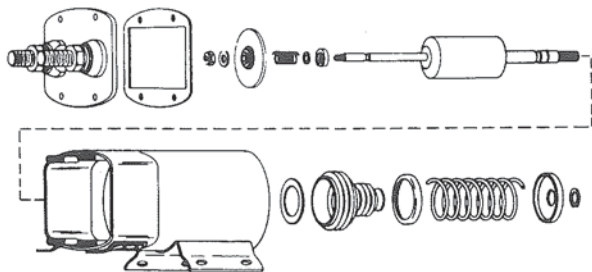
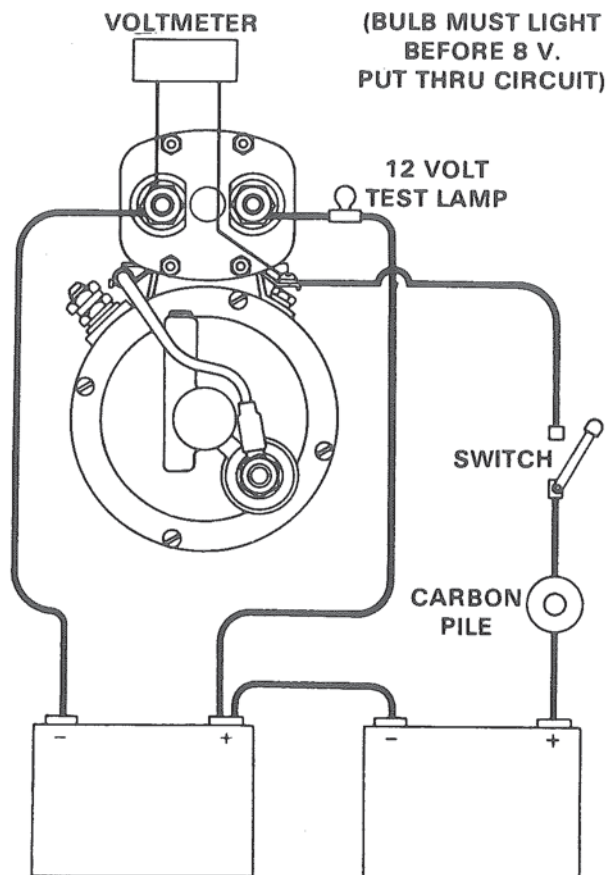

Figure 11. Solenoid Assembly.
Figure 19. Voltage Adjustment.
1. Remove four (4) cover retaining nuts and pull cover away far enough to expose the series winding connection on the motor terminal stud.
2. Remove connecting screw and separate cover from solenoid. If contact assembly or terminal studs are burned, eroded or pitted, replace before testing. See Figure 11 for proper parts stack-up.
6. If test bulb lights, solenoid has been assembled wrong. Remove cover from solenoid and check contact component assembly. Figure 11. If test light does not light, connect a carbon pile and volt meter to circuit. Figure 19.